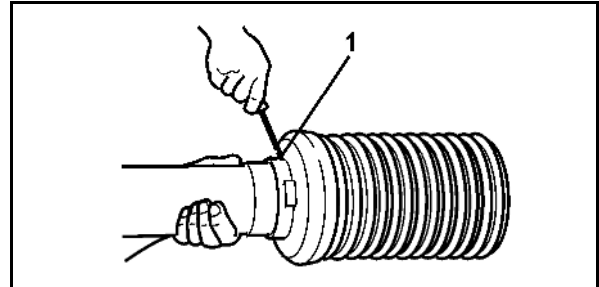

Fig. 57
3. Turn the PTO shaft guard (Fig. 57/1) to the installation position.
4. Pull off the guard half (Fig. 57/3).